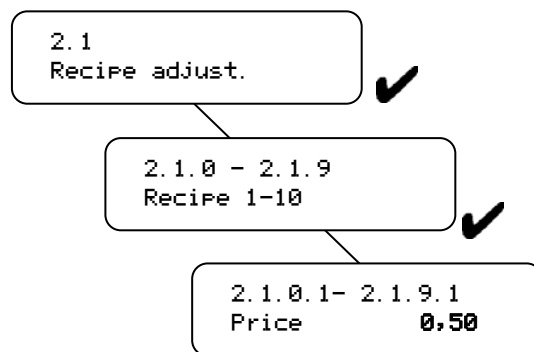

Fig. 24
- Set the price (fig. 24) at menu item 2.1.0.1 until 2.1.9.1